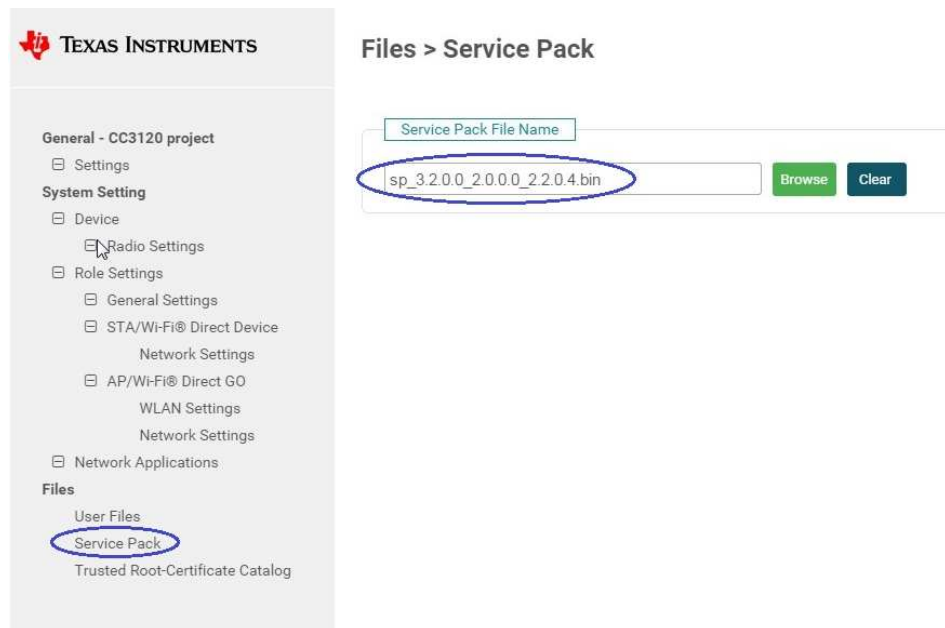

Figure 13. UniFlash Service Pack
- Click the *Browse* button and navigate to the Service Pack directory to select the binary (see Figure 13).